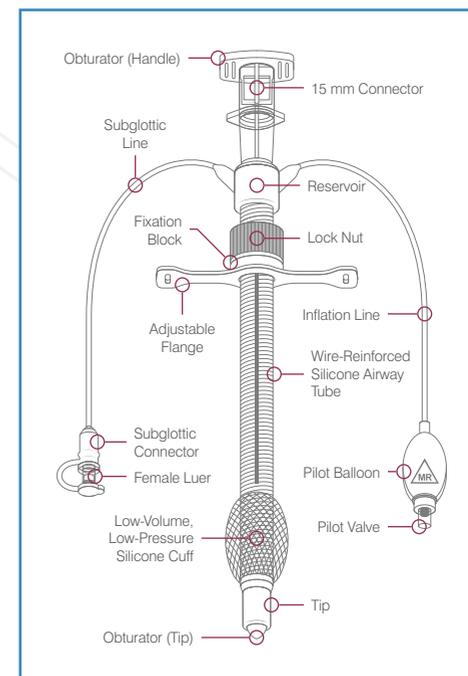

Figure 2: Venner PneuX™ TT
The Venner PneuX™ Tracheostomy Tube (TT) (Figure 2) is intended for patients undergoing tracheal intubation during extended periods (not more than 30 days) of intensive or critical care to facilitate ventilation and for the evacuation or drainage of secretions from the subglottic space.